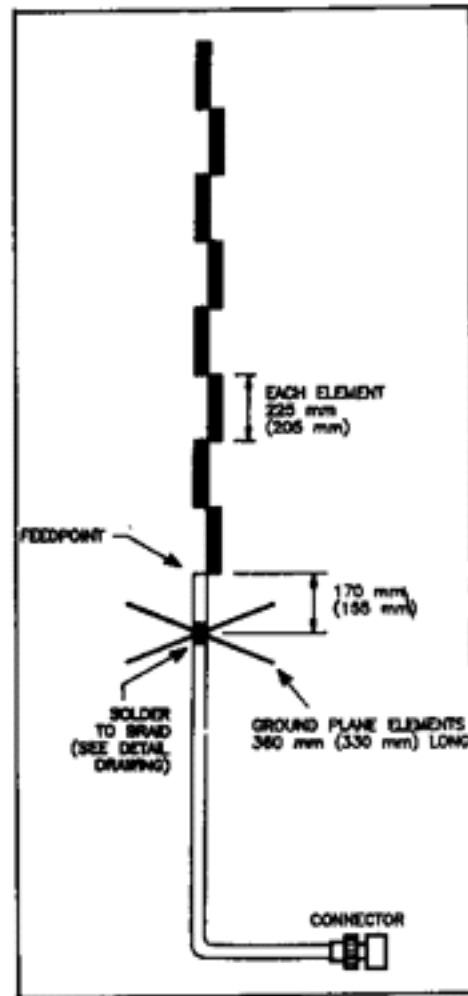

Figure 3. The general form of the UHF coaxial collinear antenna described. Dimensions are shown for the 70cm amateur band and the UHF CB band (in brackets).
The general arrangement and dimensions of an 8-element coaxial collinear array are shown in Figure 3. The dimensions shown put the antenna's centre frequency on 436.5MHz for the 70cm amateur band; the dimensions in brackets put the antenna's centre frequency on 476.9MHz, the middle of the UHF CB band. This makes the array of a size which is readily handled – about two metres tall for the 70cm version, and about 1.8 metres tall for the UHF CB version.
11) Cut two lengths of tinned copper wire or brazing rod to size: each 360mm long for the 70cm amateur band, and 330mm long for the UHF CB band (see Figure 3). If you're using tinned copper wire, straighten it first. This can be done by clamping one end in a vise, grasping the other end with a pair of pliers and giving it a good tug. It will bow a bit after you take it out of the vise, but then you can straighten it easily by hand. Tin the centre of each groundplane element.
Now its time to add the additional elements to the top and bottom of the collinear array. First add a ¼ wave element to the top of the antenna as shown in Figure 3. Use #16 solid wire or similar and solder it to the center conductor only. The length of the ¼ wave element is calculated as follows: